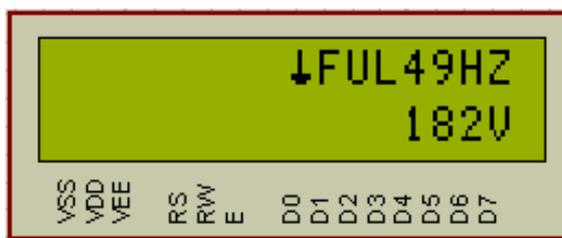

Figure 9 The error message of the fuel system
- Display the error on the LCD as shown in Figure 9